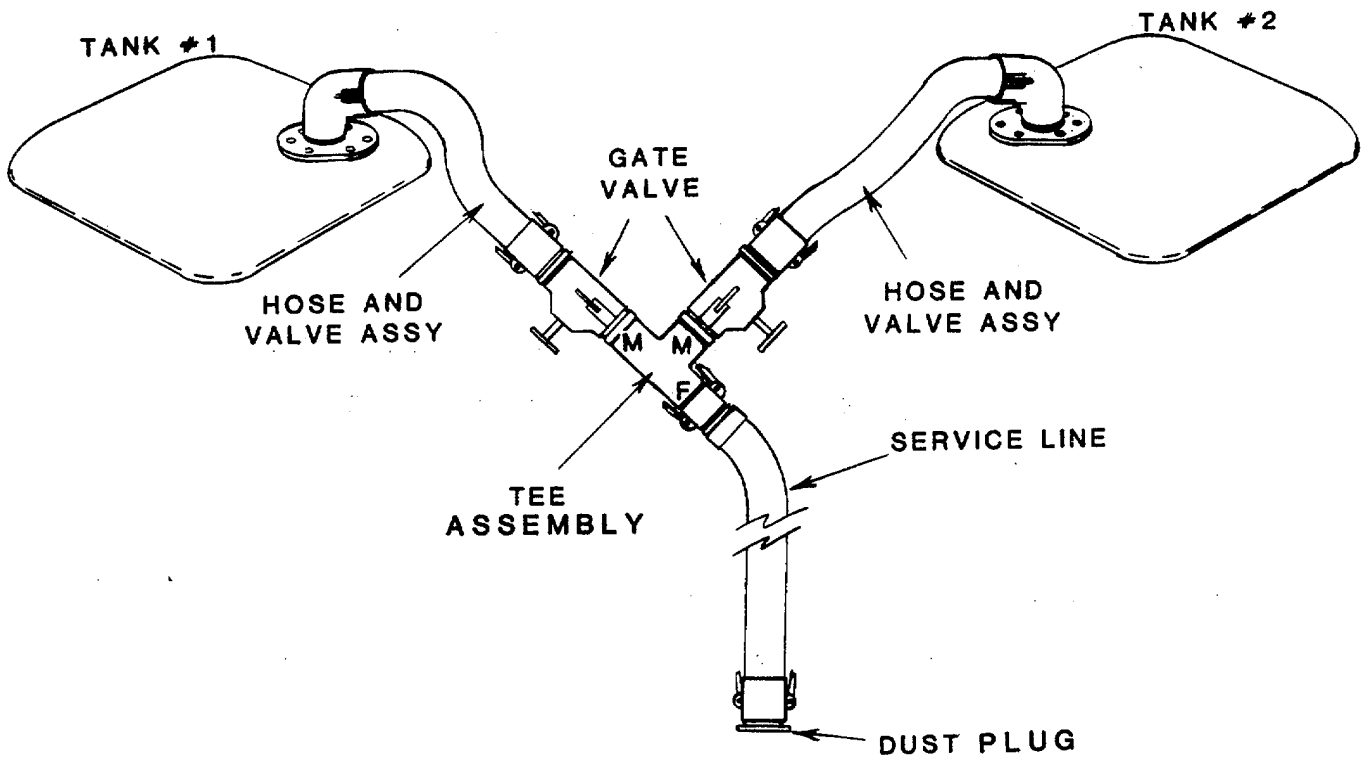

Figure 3-1. Tee Assembly Operation
- a. Connect the tee assembly straight run male quick-disconnect (Q-D) coupling to tank #1 gate valve female Q-D coupling (See Figure 3-1).